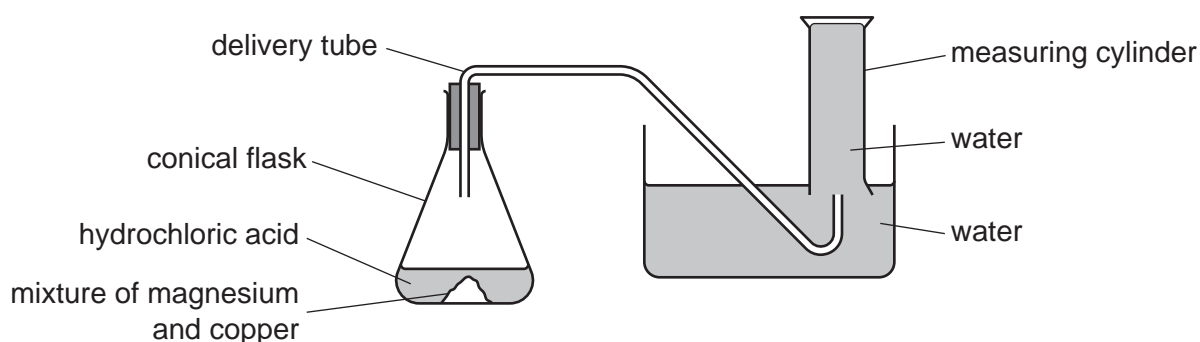

Fig. 3.1
- Quickly replace the flask into the apparatus as shown in Fig. 3.1.